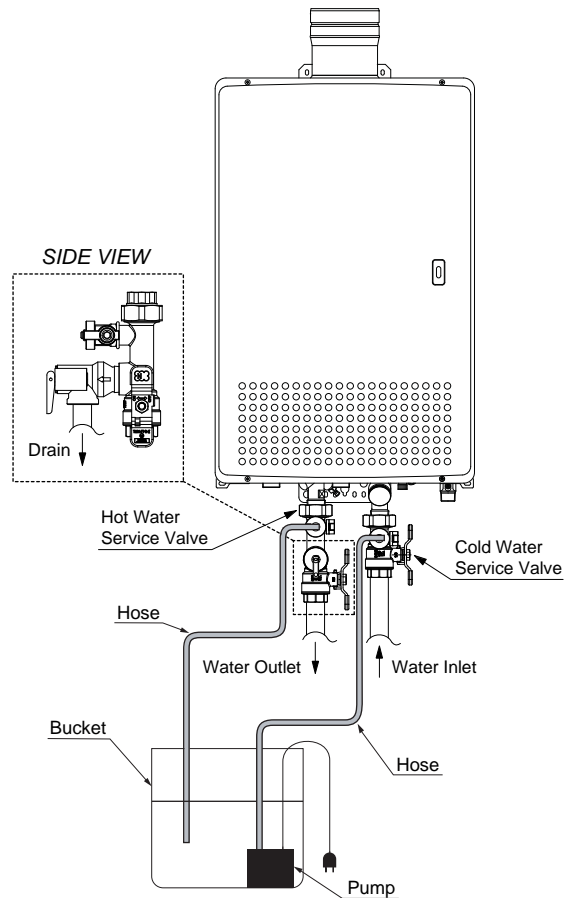

Figure 3. Flush Procedure
5. Connect the pump outlet hose to the cold water drain valve on the service valve as shown in **Figure 3**.
6. Connect a drain hose to the hot water drain valve outlet on the service valve as shown in **Figure 3**.